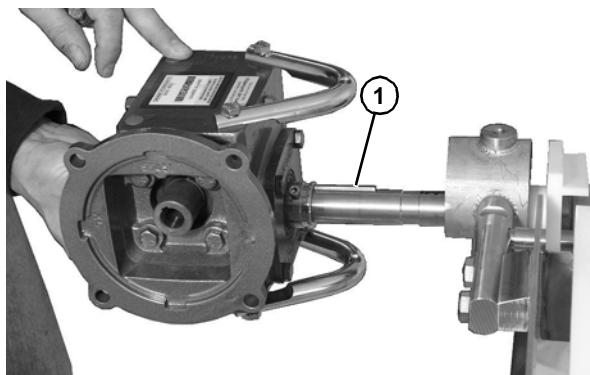

Figure 58
6. Slide assembly off the bearing spindle (Figure 58). Remove the key (Figure 58, item 1).